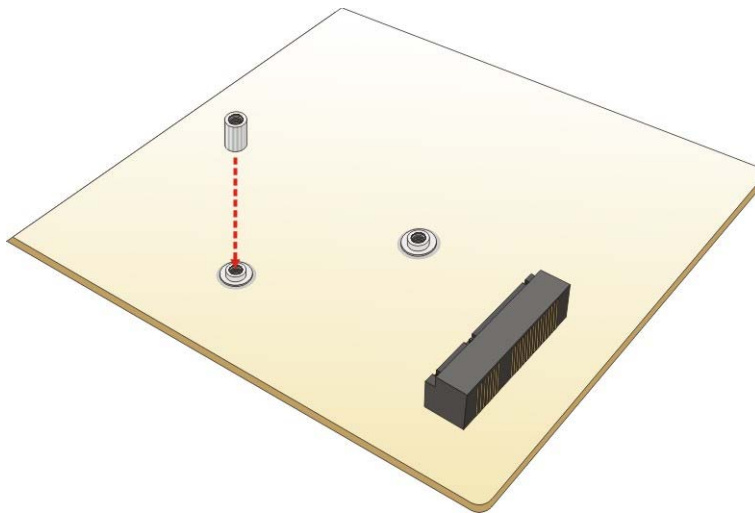

Figure 3-11: Installing the Standoff
Step 4: Install the previously removed standoff to the screw hole for the full-size PCIe Mini card (**Figure 3-11**).